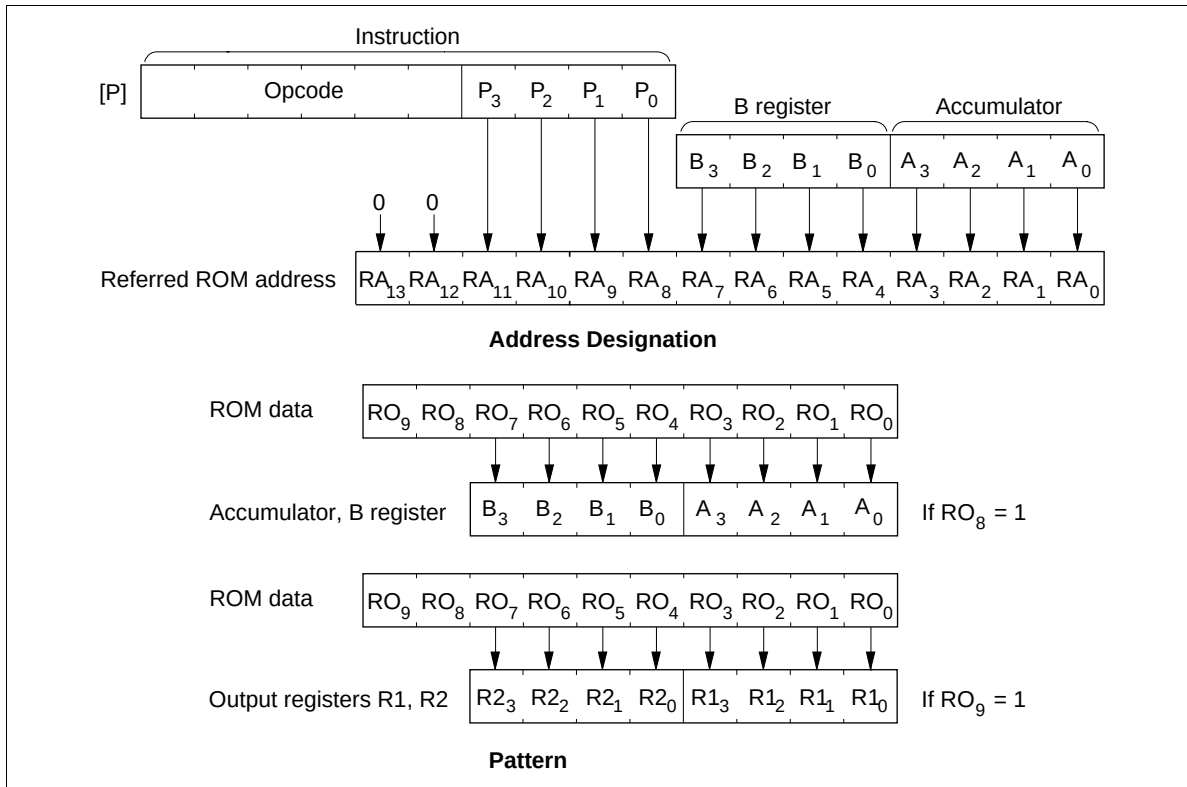

**Figure 42 P Instruction**
**P Instruction:** ROM data addressed by table data addressing can be referenced by the P instruction (figure 42). When bit 8 in the referred ROM data is 1, eight bits of ROM data are written into the accumulator and B register. When bit 9 is 1, eight bits of ROM data is written into the R1 and R2 port output registers. When both bits 8 and 9 are 1, ROM data is written into the accumulator and B register, and also to the R1 and R2 port output registers at the same time.